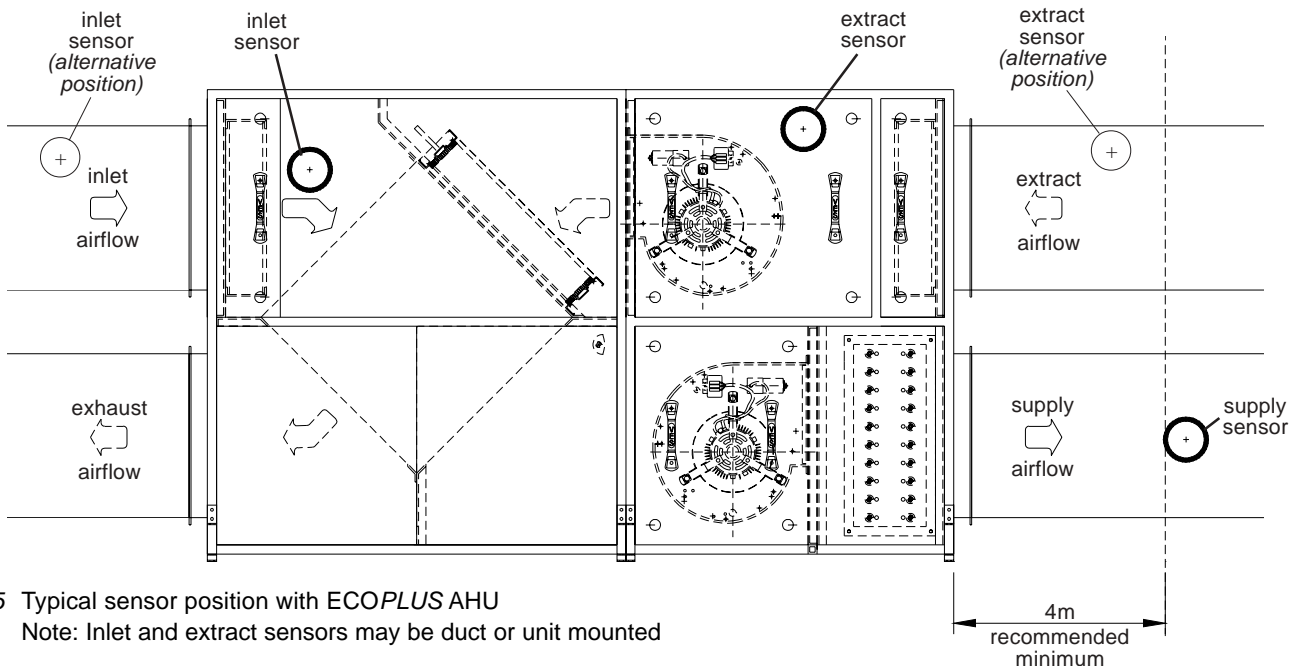

Fig.5 Typical sensor position with ECOPLUS AHU
The relevant sensors should be positioned as shown in *fig.5*. For factory fitted control panels, sectional AHUs will require reconnection of numbered wires to the control panel. Please refer to the appropriate control panel wiring diagram for details. The ECOPLUS Remote is solely designed for use with the ECOPLUS range of control panels.
- Check sensors are correctly positioned. (Refer to sensor positioning *fig.5*)